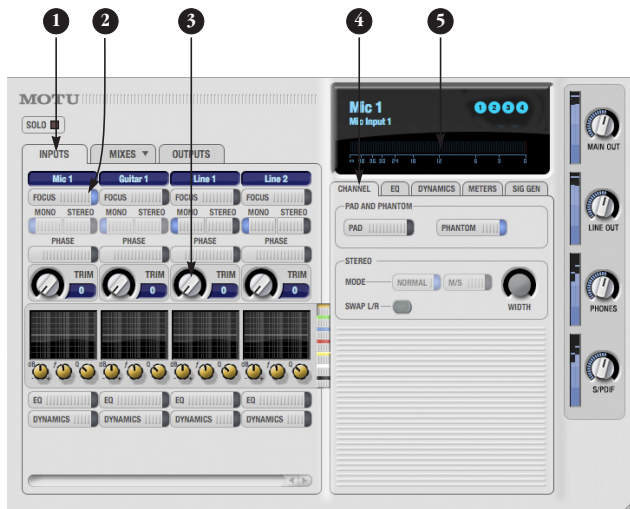

Figure 4-4: CueMix FX input settings
If the input signal is still too hot with the trim turned all the way down, engage the -20dB pad by pushing the MIC knob or by enabling it in the CueMix FX Channel tab (Figure 4-4). See “Input settings” on page 20.
- 1 Click the Inputs tab (Figure 4-4).
- 2 Adjust the settings for each input channel as desired. The Focus button exposes further settings for the input in the Channel tab (4).
- 4 Click the Channel tab (4) to access the channel's input settings.
Use the long-throw, horizontal input level meter (5) at the top of the channel settings section (Figure 4-4) to calibrate the level.